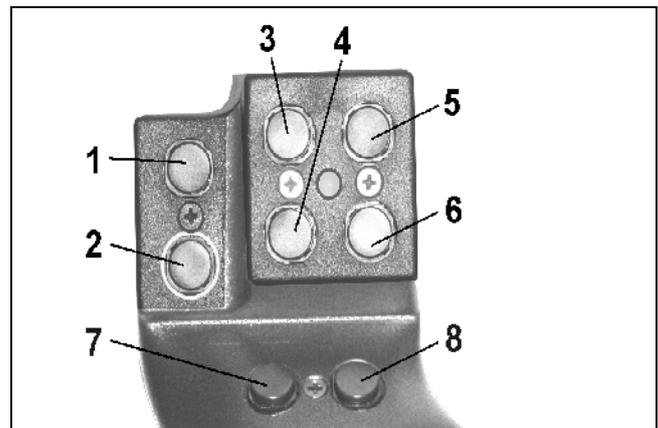
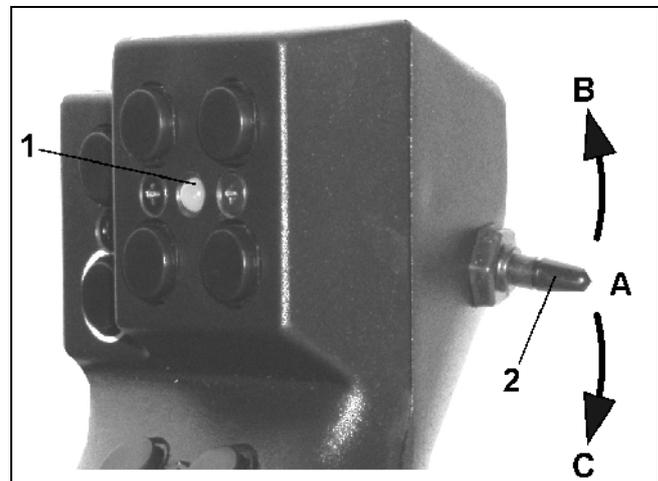

Fig. 26
Fig. 27
For the actuation of **AMATRON 3** the joystick (Fig. 26) provides 8 keys (1 – 8). In addition the coverage of the keys can be changed 3 times by the switch (Fig. 27/2).
- mid position (Fig. 27/A) and can be moved
- upwards (Fig. 27/B) or
- downwards (Fig. 27/C).
The position of the switch is indicated by a LED light (Fig. 27/1).